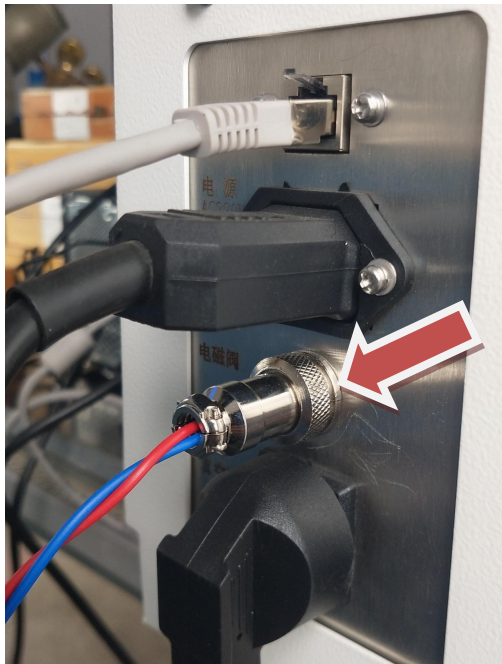

Figure 3-23 Line socket of the flapper valve
Step 2 Connect the wire on the flapper valve to the back of the machine, as shown in Figure 3-23: